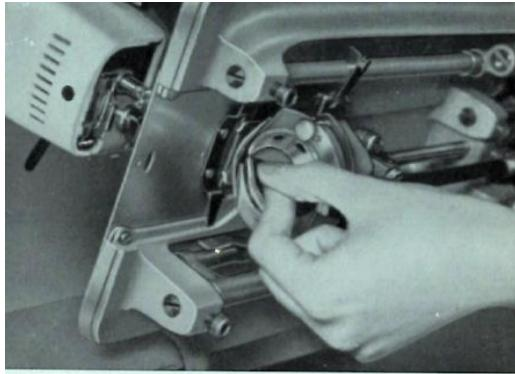

Figure 32
- 4) Remove shuttle by pulling it to the left with thumb and forefinger of left hand (Figure 32). This leaves the shuttle race free for cleaning.
- 6) To replace shuttle, hold it with left thumb and forefinger and without forcing, insert into race fitting it opposite to shuttle carrier (figure 32)